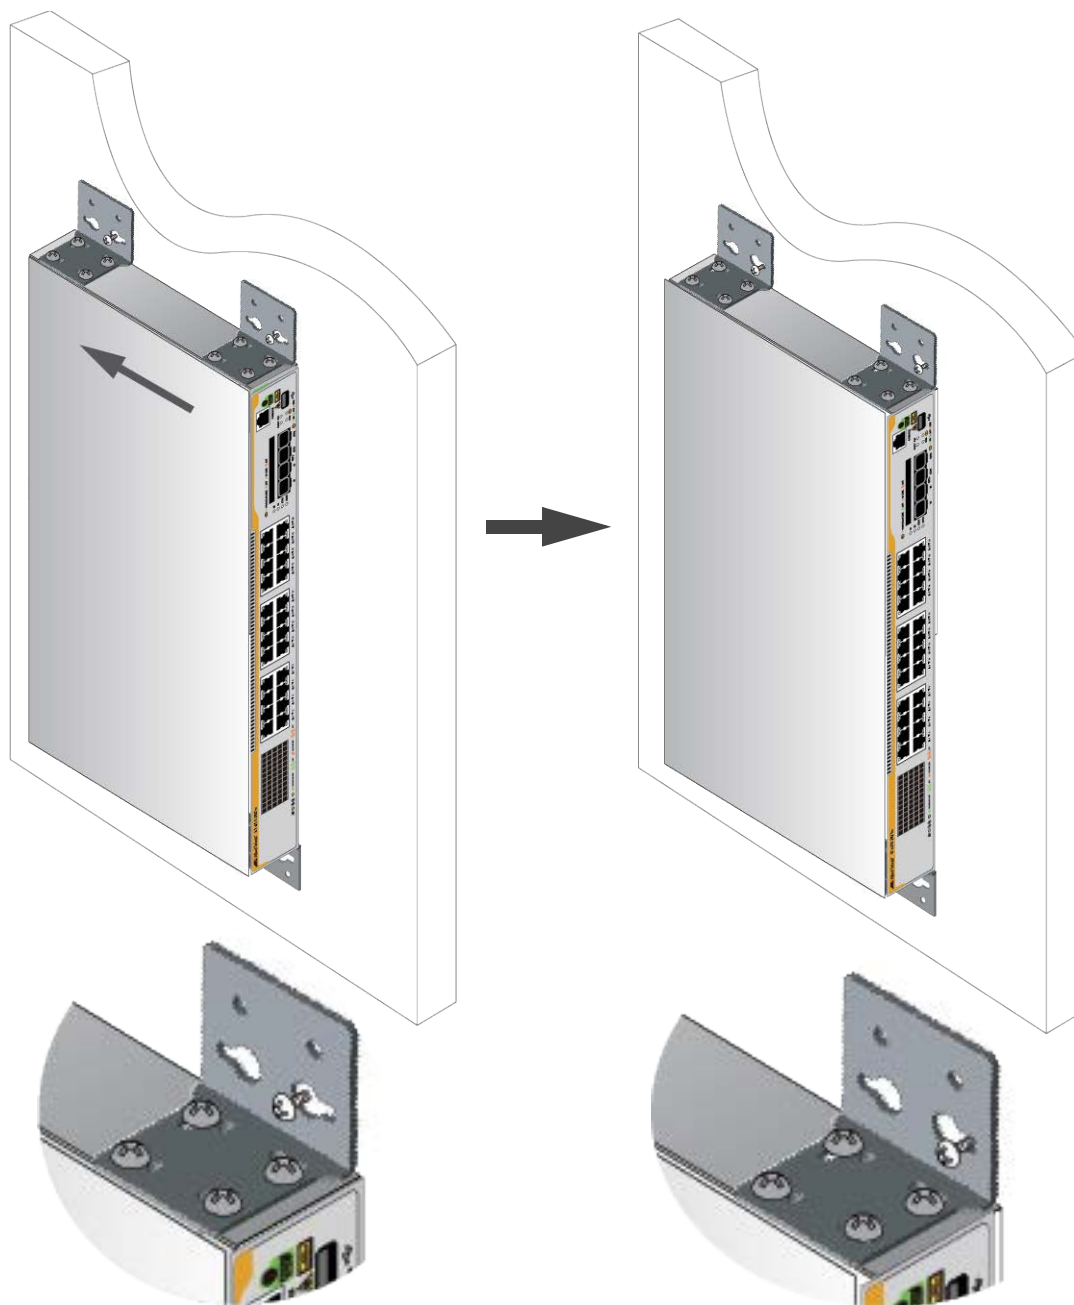

Figure 52. Hooking and Slide the Switch
9. Install the brackets on the screws by sliding the key-hole slots under the screw heads. See Figure 52 on page 86.